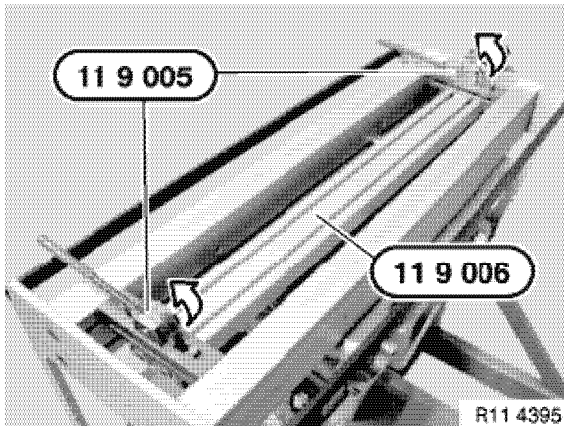

Figure 5-22
- Lock special tool OEM No. 11 9 005 in direction of the arrows (**Figure 5-22**). Rotate cylinder head 180° into service position.